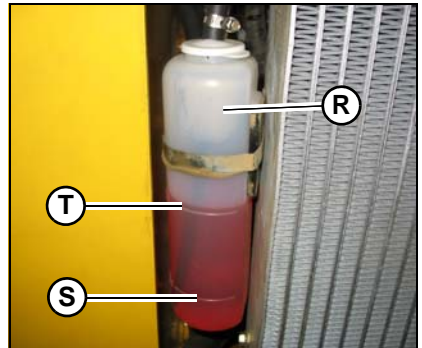

Figure 104 – Coolant Expansion Reservoir
4. Check the coolant level in the expansion reservoir (R, Figure 104). Coolant level must be between the full (T) and low (S) marks on the expansion reservoir. Add coolant to the expansion reservoir as required.